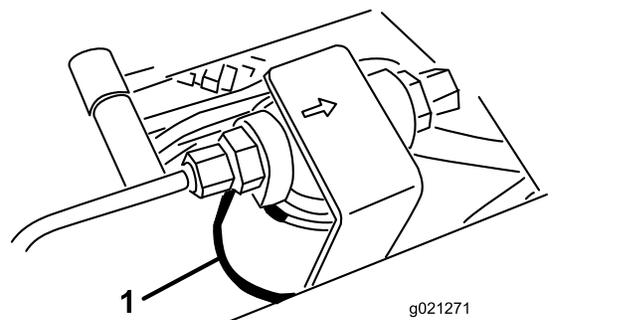
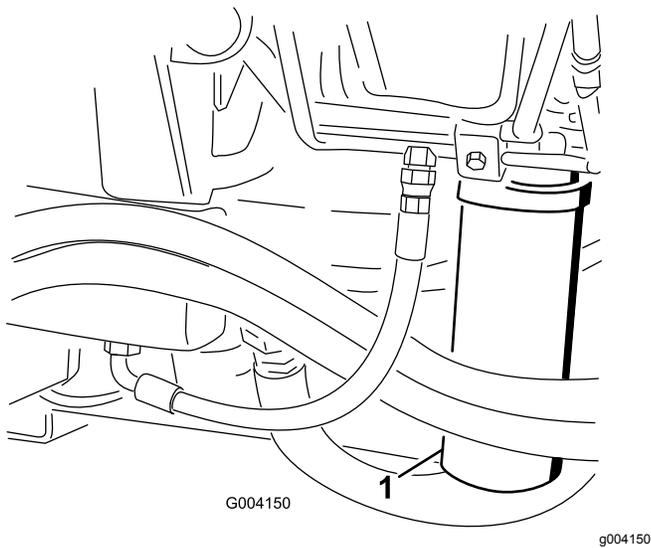

Figure 90
Figure 91
2. Clean the area around the filter-mounting area and place a drain pan under filter (Figure 90) and (Figure 91).